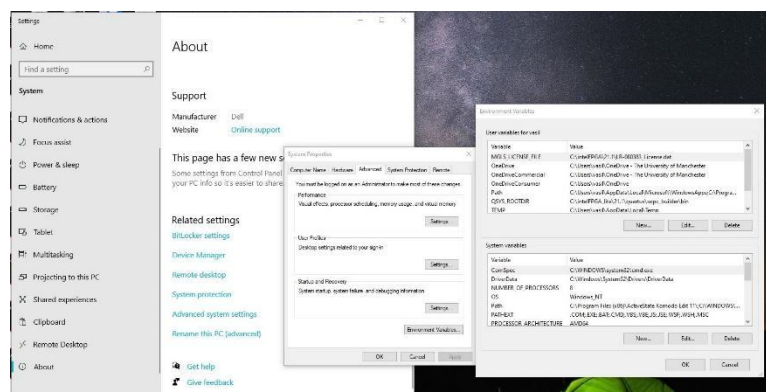

Fig. 2. Setting up the environment library for Questa – Intel FPGA simulator.
- An environment variable should also be added to the system. For Windows, right-click on Start, select System, Advanced System Settings, Environment Variables, and create a New variable called `LM_LICENSE_FILE` and provide the path where you stored the license file you received from Intel (`*.dat`). Click OK. An example of this setup is shown in Fig. 2.